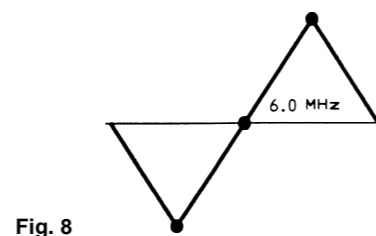

Fig. 8
1. Adjust the output of Sweep Generator until a similar waveform is obtained (Fig.8).
2. Adjust T104 to obtain the marker 6.0MHz rested on the horizontal line (Fig.8). NOTE: Input Level = 90dB.